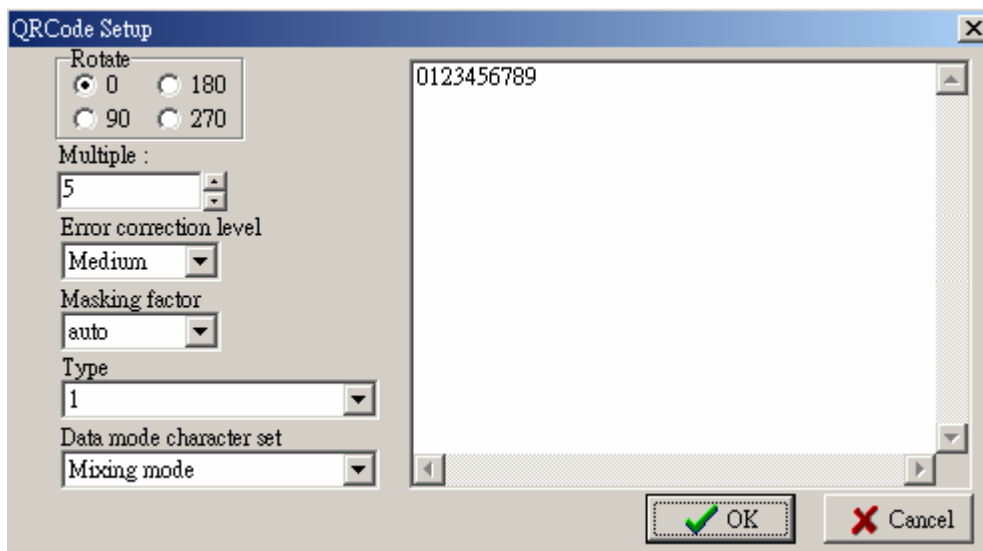

Fig.11.1
1. Click  (refer to the Fig.11.1)